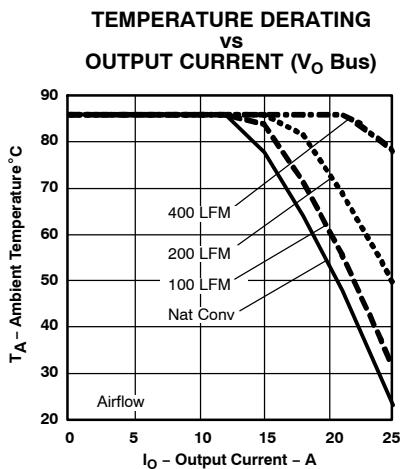
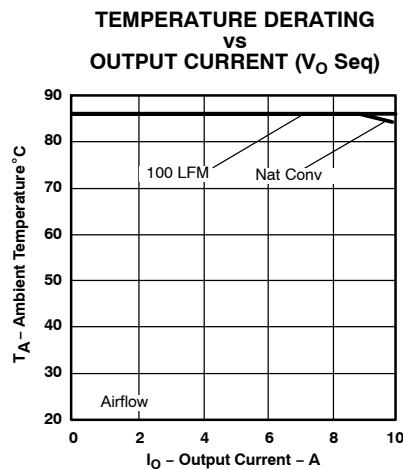

Figure 4.
Figure 5.
(2) The temperature derating curves represent operating conditions at which internal components are at or below manufacturer's maximum rated operating temperature. See Figure 4 and Figure 5.